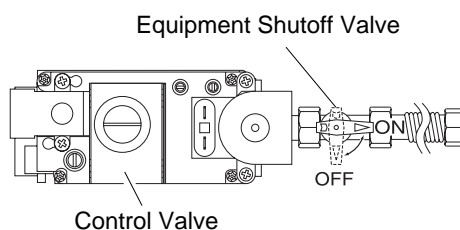

Figure 52 - Turning the Equipment Shutoff Valve to the OFF position
5. Turn the equipment shutoff valve clockwise ↻ to the OFF position (see Figure 52). Do not force.
6. Wait five (5) minutes to clear out any gas. Then smell for gas, including near the floor. If you smell gas, **STOP!** Follow "B" in the safety information in column one. If you don't smell gas, go to the next step.